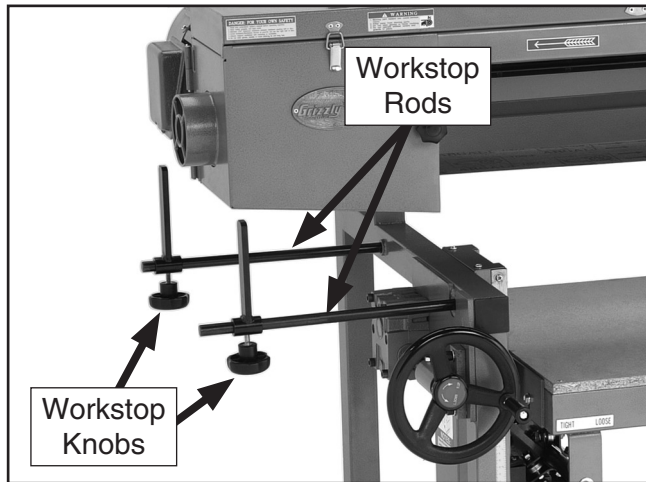

Figure 31. Auxiliary workstops.
21. Attach the auxilliary workstop rods by threading the workstop rods into the machine base, then sliding the workstops over the rods and tightening the knobs. (**Figure 31**).